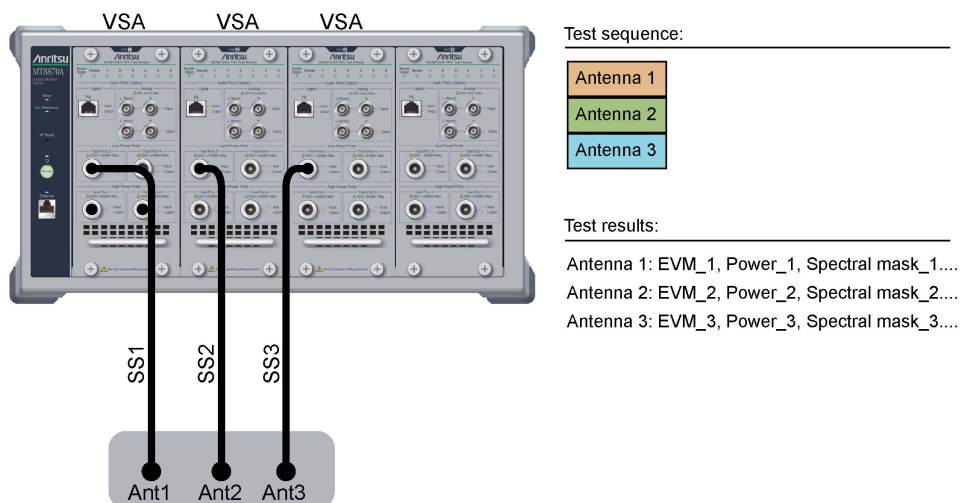

Figure 5-1. True MIMO Transmitter Testing
Testing true MIMO data requires a dedicated vector signal analyzer (VSA) for each of the spatial streams (SS). On the MT8870A true MIMO testing therefore requires a dedicated MU887000A module for each of the streams being transmitted. This is shown in figure 5-1 below.